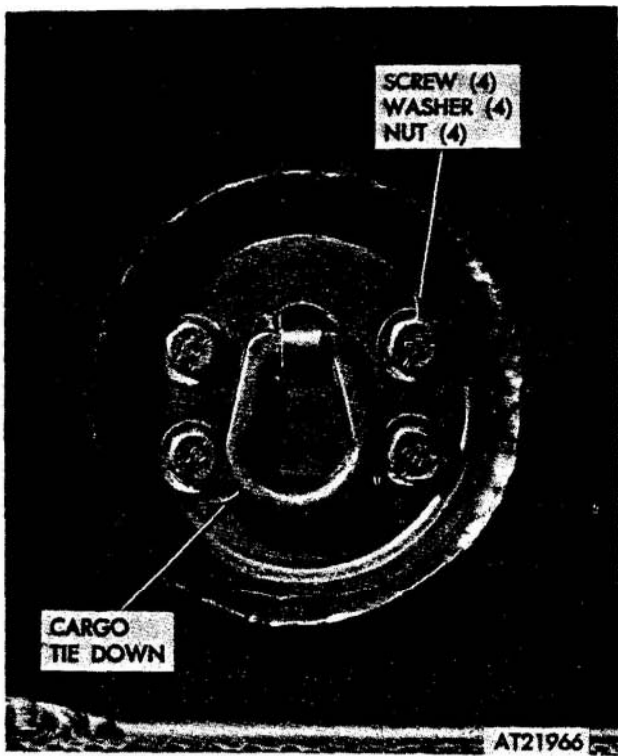

Figure 2-314. Carrier cargo tie-downs, removal and installation.
(1) Remove four screws, washers, and nuts securing tie-down assembly to carrier hull. Remove tie-down assembly (fig 2-314).
(2) Clean sealant from area of tie-down assembly on hull with a suitable solvent.
- (1) Position tie-down assembly to inside of carrier hull with cutout of tie-down assembly toward bottom of the hull (fig 2-314).
- (2) Secure tie-down assembly with four screws, washers, and nuts.
- (3) Apply sealant (MIL-S-45180A, type II) to hull and nuts securing tie-down assembly.